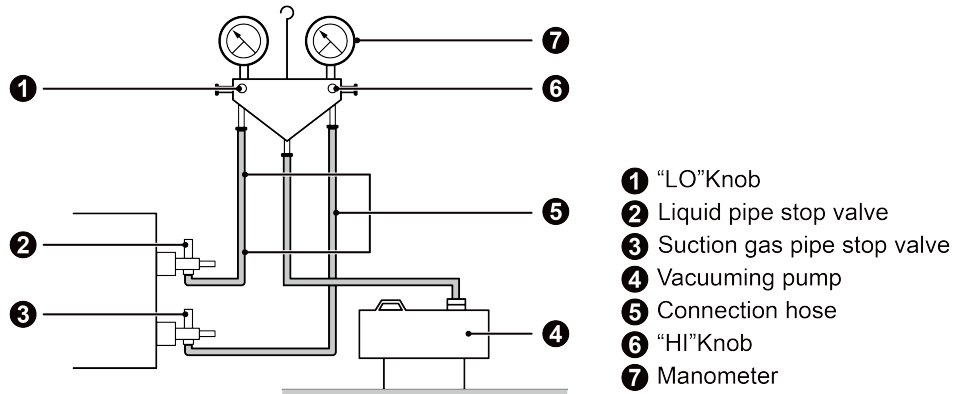

Fig.4.5.1
- (1) Outdoor unit has been charged with refrigerant before delivery. Field-installed connection pipe needs to be charged with additional refrigerant.
- (2) Confirm whether outdoor liquid and gas valves are closed.
- (3) Use vacuum pump to withdraw the air inside indoor unit and connection pipe from the outdoor valve, as shown in Fig.4.5.1 below.
- (4) When pumping down the refrigerant, stop the compressor before disconnecting the refrigerant pipes. The compressor may burst and cause injury if any foreign substance, such as air, enters the system.